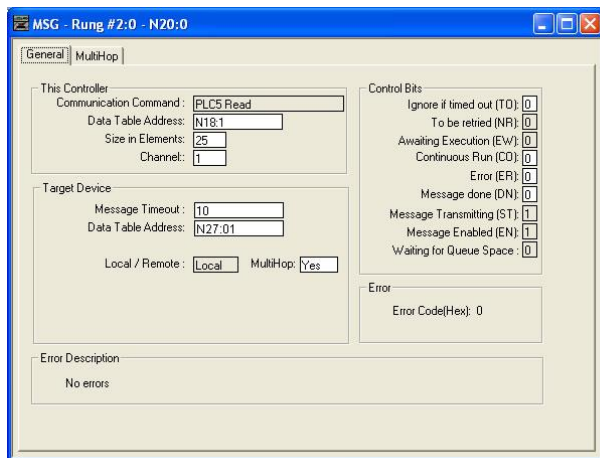

Figure 59: MSG Configuration for Reading, "General" Tab
- b) Upon hitting the <ENTER> key while in the “Control Block” entry box, the MSG Properties dialog box should appear (or it can be opened by clicking on the “Setup Screen” button at the bottom of the MSG instruction). Refer to Figure 59.